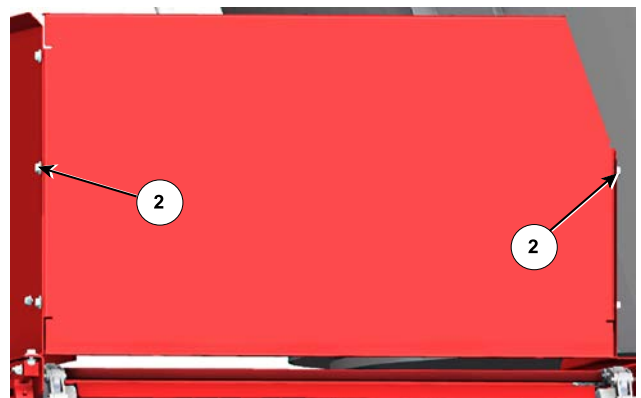

Figure 10: Attach the Conveyor End Shield
14. Attach the conveyor end shield to the left front and rear shields, see *Figure 10*.
- Fasten the shield with 5 of 5/16" x 3/4" hex bolts (2), flatwashers and flange locknuts.